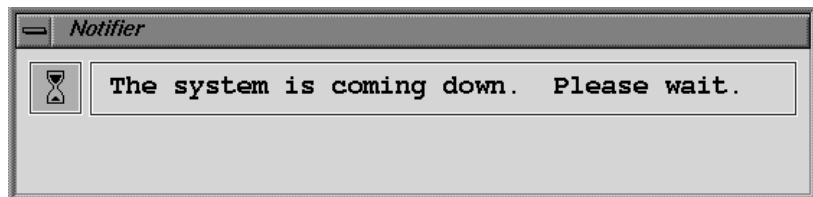

Figure 2-3 System power off notifier
3. The notifier shown in Figure 2-3 will appear on your screen within a few seconds. Then the system will power off automatically within the next minute.